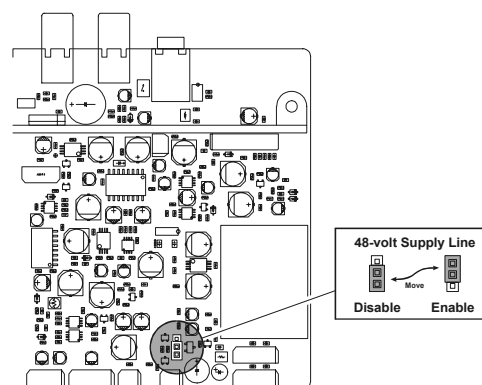

Figure 2
5. Referring to Figure 2, locate jack J28 on the AF Unit, and remove the jumper plug which is connected across pins 2 and 3 of J28.